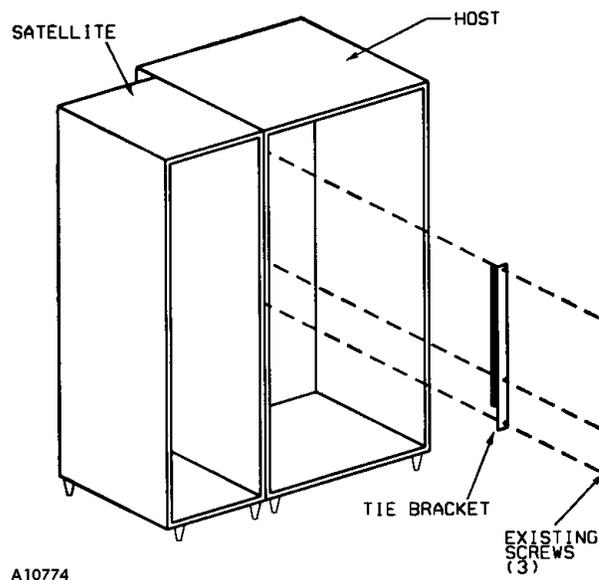

Figure 5. Tie Bracket Installation
12. Anchor the Mini-Sandwich to the host vendor. Remove the upper bracket on the host, saving the three screws. Hook the Tie Plate furnished with the Mini-Sandwich over the lip of the Mini-Sandwich. Use the saved screws to attach it to the host vendor. See **Figure 5**.